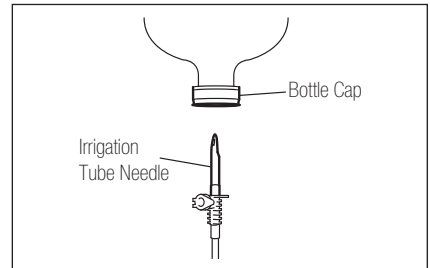

Fig. 13
- 2) Insert the Irrigation Tube Needle into the Bottle Cap. (Fig.13)